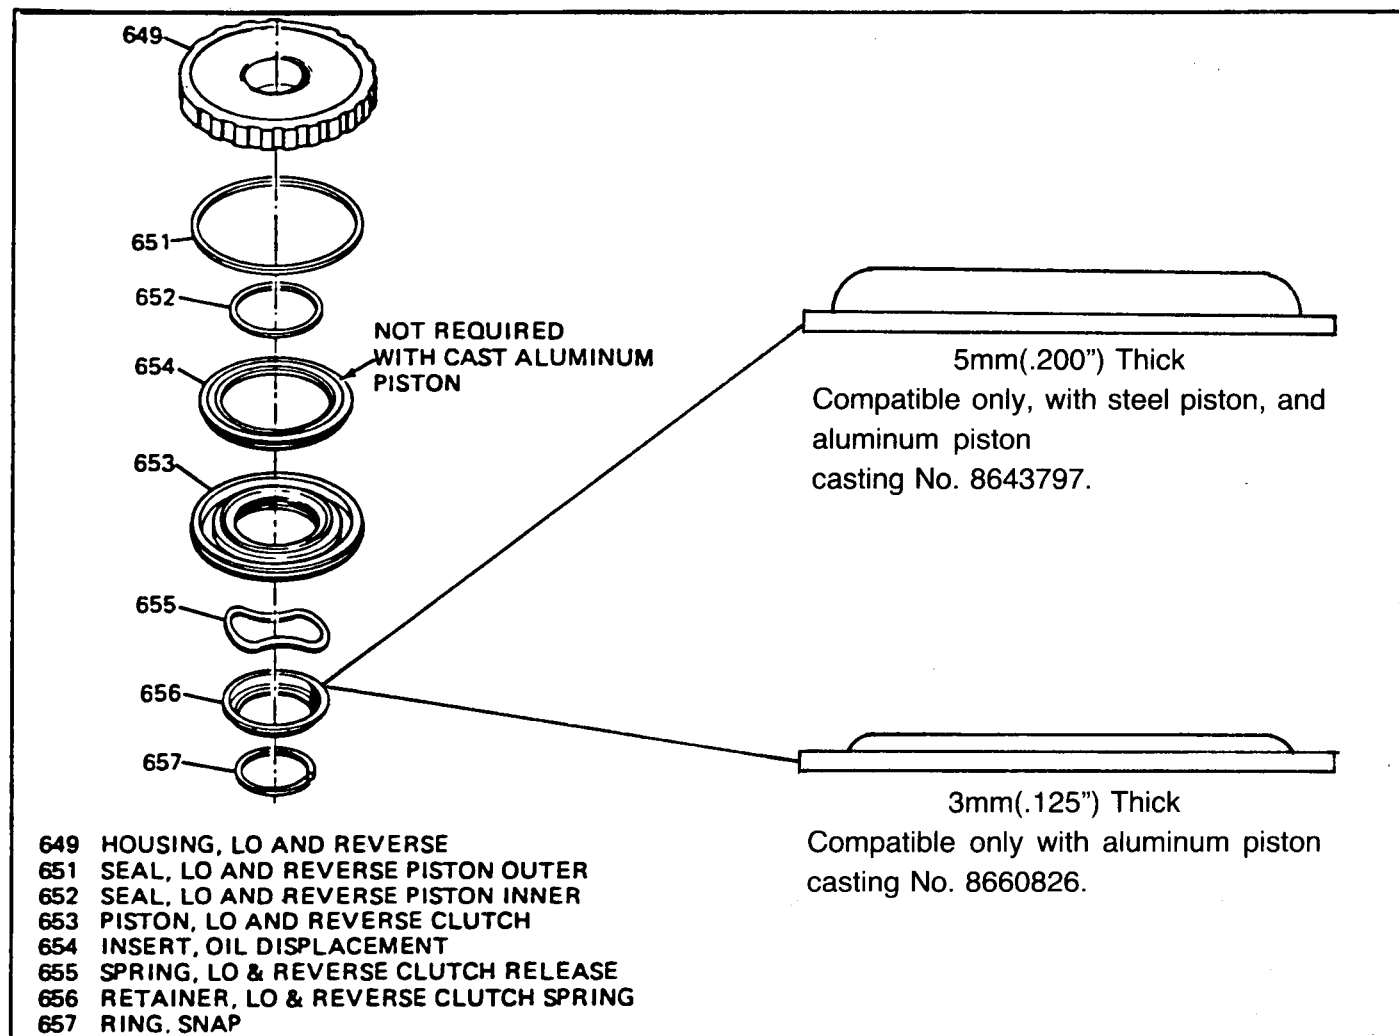

Figure 68
CAUTION: There are two different cast aluminum low and reverse pistons, casting No. 8643787, and casting No. 8660826. They use different retainers and are not compatible (Figure 68).
4. Low and Reverse Clutch Spring Retainer (See Figure 68).